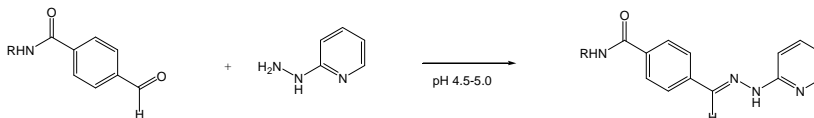

Figure 2: Colorimetric reaction used to quantify number of 4FB linkers on a biomolecule
The HyNic-4FB conjugation couple is chromophoric- the conjugate bond absorbs at 354 nm and has a molar extinction coefficient of 29000. This allows (1) real time spectrophotometric monitoring of a conjugate reaction, (2) ability to 'visualize' the conjugate during chromatographic purification using a UV or photodiode array detector and (3) quantification of conjugation. Furthermore, the level of incorporation of 4FB groups can be quantified colorimetrically as reaction with 2-hydrazinopyridine (Solulink catalog# # S-2002) yields a chromophoric product that absorbs at A354 with a molar extinction coefficient of 28,500 (Figure 2). Links to procedures and calculators to guide users through this process are given in the procedures below.
- The molar substitution ratio (MSR) can be determined using a colorimetric reaction outlined in Figure 2. Addition of 2-hydrazinopyridine to a 4FB-modified biomolecules yields a compound that absorbs at 350 nm. Refer to the 4FB-Protein Colorimetric MSR Calculator or the 4FB-Oligonucleotide Colorimetric MSR Calculator as well as the protocol that is appropriate for your lab equipment: 4FB Colorimetric MSR Assay Protein Nanodrop Method Protocol, 4FB Colorimetric MSR Assay Protein Spectrophotometer Method Protocol, 4FB Colorimetric MSR Assay Oligonucleotide Nanodrop Method Protocol, or 4FB Colorimetric MSR Assay Oligonucleotide Spectrophotometer Method Protocol.